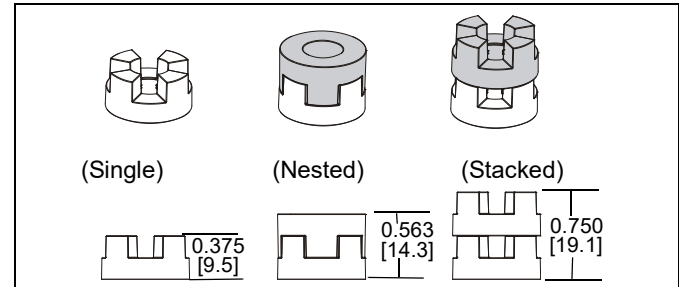

Figure 20
NOTE: The nesting spacers (PI) may be used separately, or put two together in different configurations to create different size spacers. (See Figure 20)